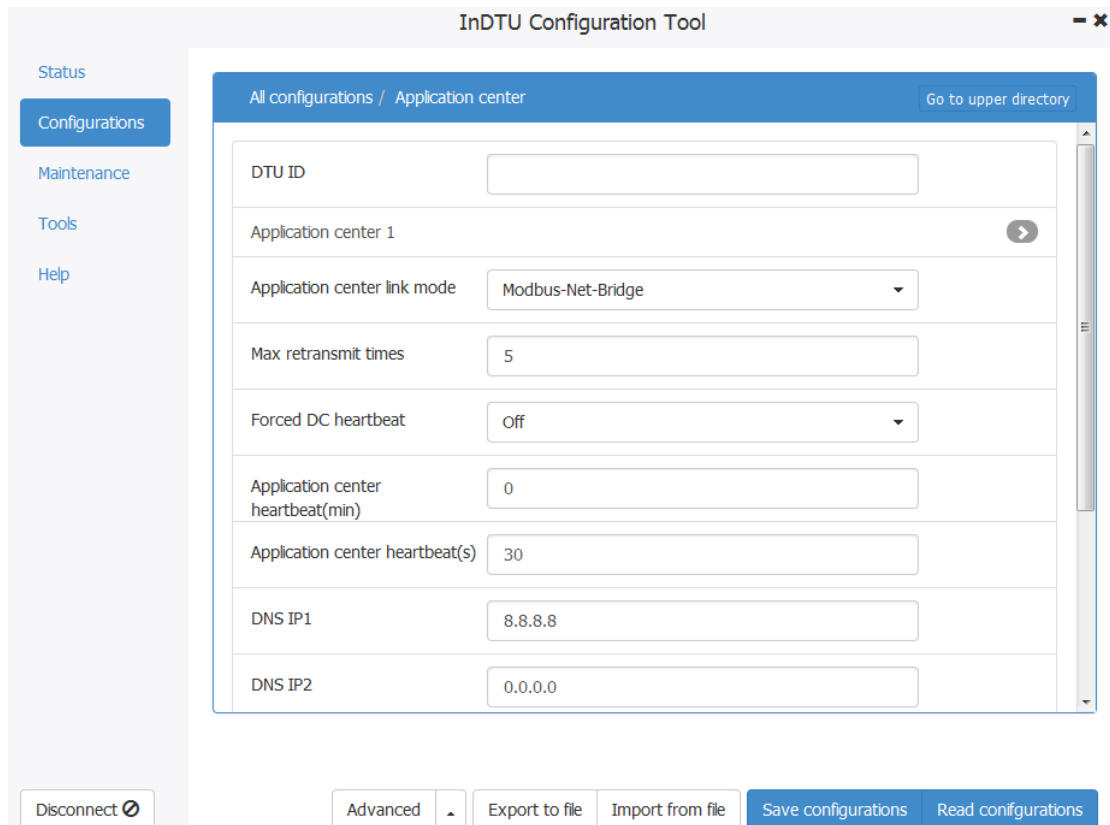

Figure 5-15 Modbus-Net-Bridge setting 1
Step 2: Click “configurations > Application center”. Select Modbus-Net -Bridge for the “Application center link mode”, as shown in Figure 5-15. The port number is 502 for Modbus-net-bridge, it’s fixed.